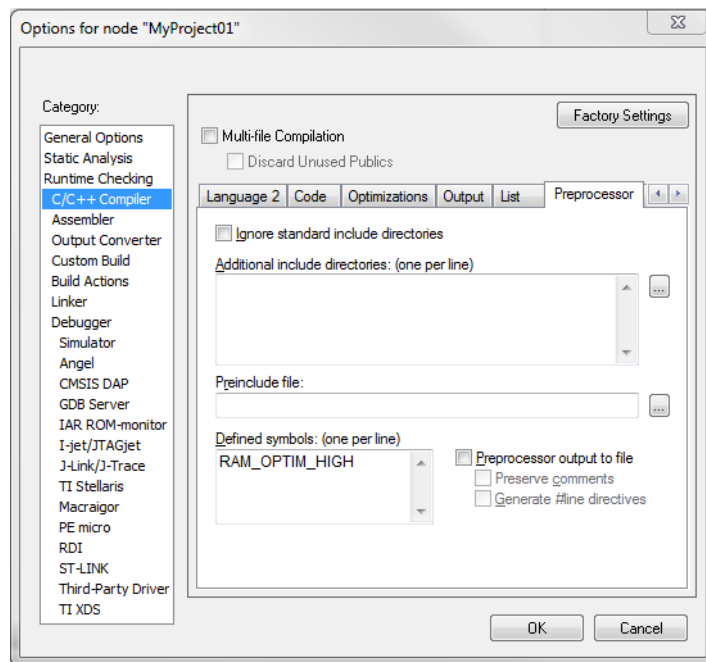

Figure 1-42. Defined symbols
4. In the text box (in Defined symbols: (one per line)), type one of the following (See Figure 1-42):